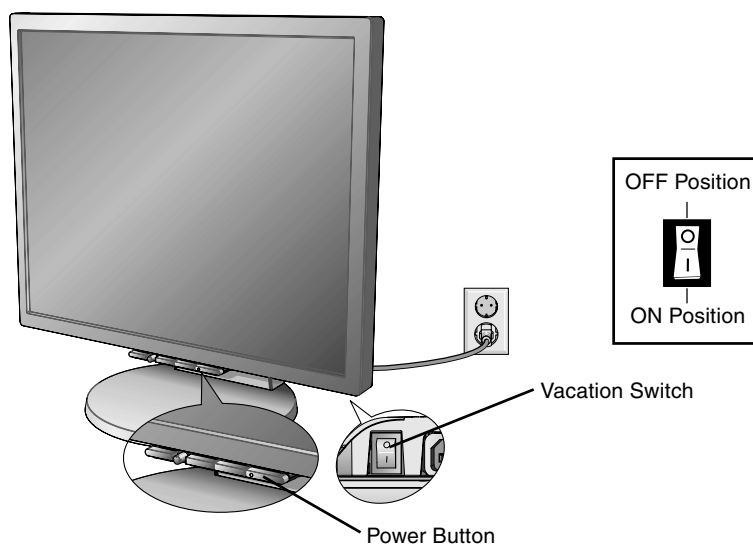

Figure E.1
8. Connect the power cord to the power outlet (**Figure E.1**).
9. The vacation switch on the back side of the monitor must be turned on (**Figure E.1**). Turn on the monitor with the front power button and the computer.